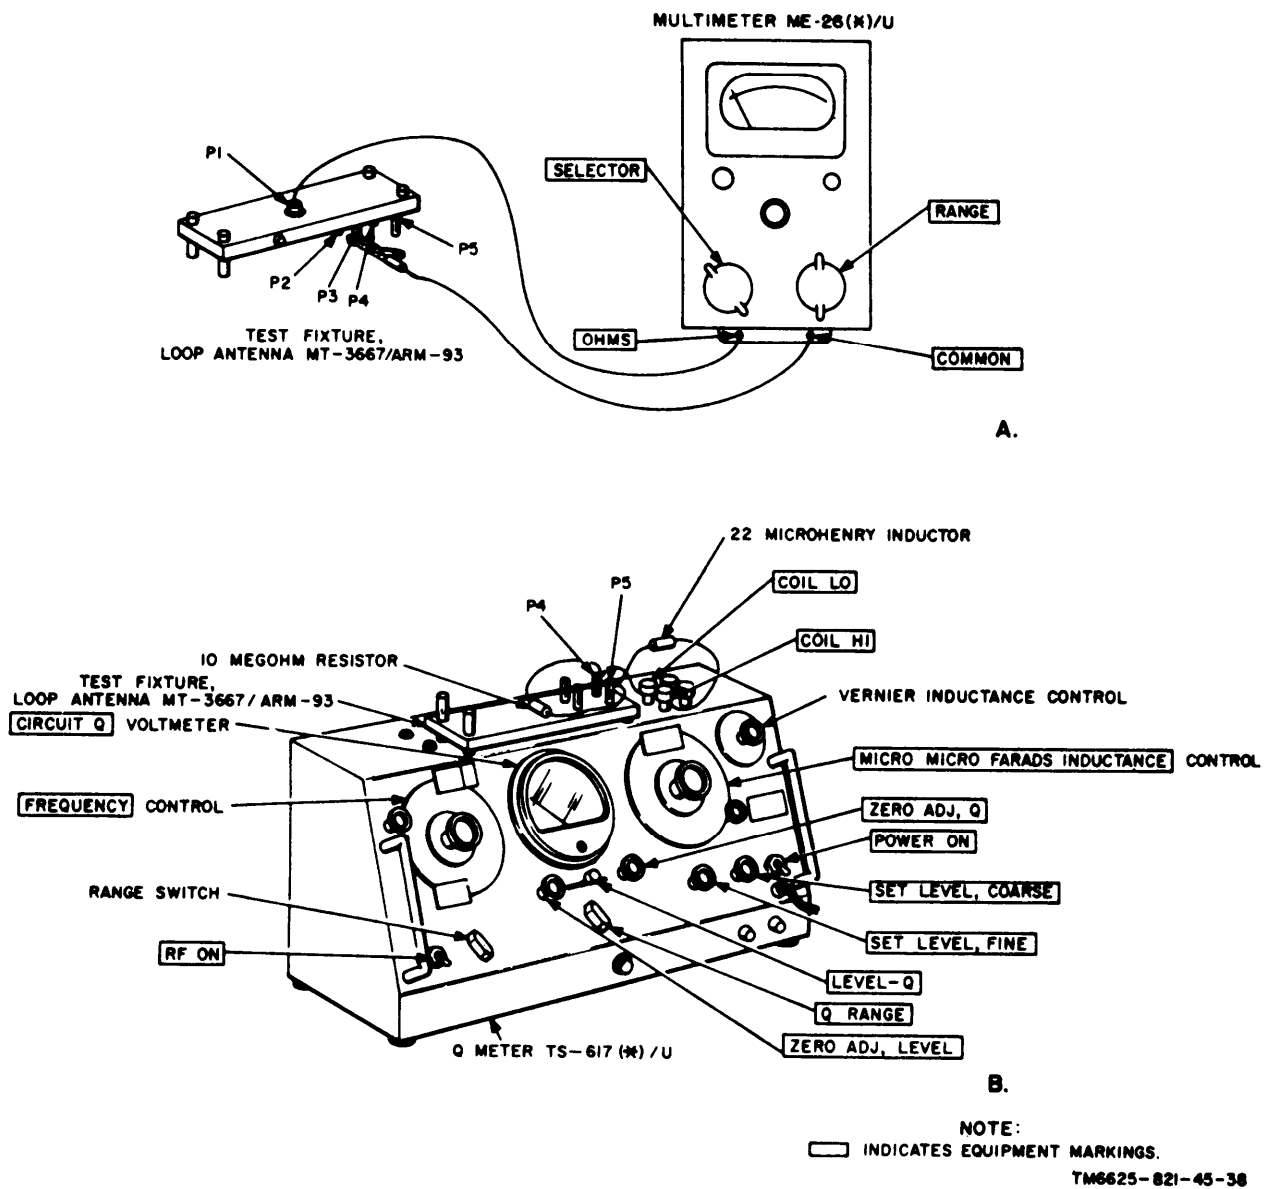

Figure 4-6. Loop test fixture test setup.
(1) Multimeter ME-26(*)/U.
(2) Q Meter TS-617(*)/U.
- b. *Test Connections and Conditions.* Replace the fiberboard bottom of the loop test fixture. Refer to A, figure 4-6, and connect the COMMON lead of ME-26(*)/U to banana plug P3 on the loop test fixture. Connect the OHMS lead of ME-26(*)/U to pin F of connector P1 on the loop test fixture.
| 2 | TS-617(*)/U Connect the equipment as shown in B, figure 4-6. Set POWER ON switch to ON and allow a 5-minute warmup period. Set the range switch to the 1.5-4.5 MC position. Set the FREQUENCY control to 2 megacycles. Turn the LEVEL-Q switch to the LEVEL position and rotate the ZERO ADJ LEVEL control until the CIRCUIT Q voltmeter reading is zero. Turn the LEVEL-Q switch to the Q position and rotate the ZERO ADJ Q control until the CIRCUIT Q voltmeter reading is zero. Turn LEVEL-Q switch to the LEVEL position. Turn the RF ON switch to the ON position. Adjust the SET LEVEL FINE and SET LEVEL COARSE controls until the CIRCUIT Q voltmeter pointer is over the redline on the meter. Set the Q RANGE switch to positions required to keep the CIRCUIT Q voltmeter within its range. Set the vernier inductance control to zero. | ME-3667/ARM-93 The switch on the loop test may be set to any position. | a. Adjust the MICRO MICRO FARADS INDUCTANCE control for a maximum indication on the CIRCUIT Q voltmeter. b. Peak the CIRCUIT Q voltmeter indication with the vernier inductance control. c. Note the capacitance indicated on the MICRO MICRO FARADS INDUCTANCE control and on the vernier inductance control. Record this capacitance as C1. d. Short across the 10-megohm resistor with a short piece of #12 AWG solid copper wire. e. Set the vernier inductance control to zero, and adjust the MICRO MICRO FARADS INDUCTANCE control for a maximum indication on the CIRCUIT Q voltmeter. f. Peak the CIRCUIT Q voltmeter indication with the vernier inductance control. g. Note the capacitance indicated on the MICRO MICRO FARADS INDUCTANCE control and on the vernier inductance control. Record this capacitance as C2. h. Use the recorded values of C1 and C2 in the following formula to calculate the value of capacitor C1 in the loop test fixture: $\text{Capacitor } C1 = \frac{C1 - C2}{C1 - C2}$ | a. A maximum indication should occur with the MICRO MICRO FARADS INDUCTANCE control set to approximately 400 micromicrofarads. b. None. c. Approximately 400 micromicrofarads. d. None. e. A maximum indication should occur with the MICRO MICRO FARADS INDUCTANCE control set to approximately 286 micromicrofarads. f. None. g. Approximately 286 micromicrofarads. h. Capacitor C1 should equal 1,000 ± 110 micromicrofarads. |